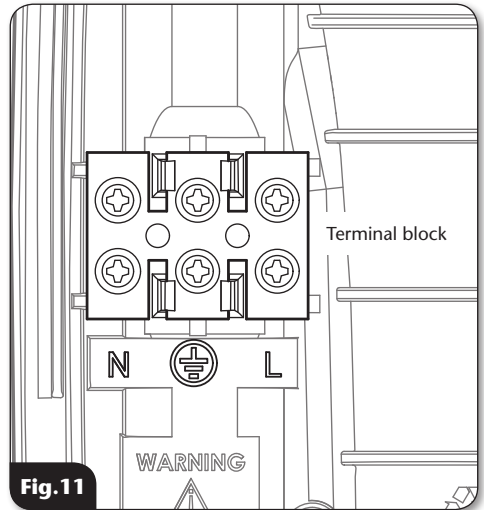

Fig.11
- Route the cable into the shower unit for connection to the terminal block (**fig.11**) as follows: